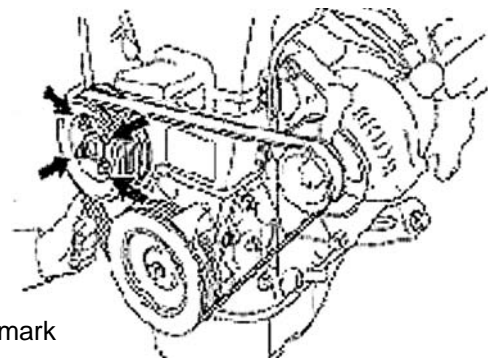

Figure 39
14. Remove generator assembly. See (Figure 39)